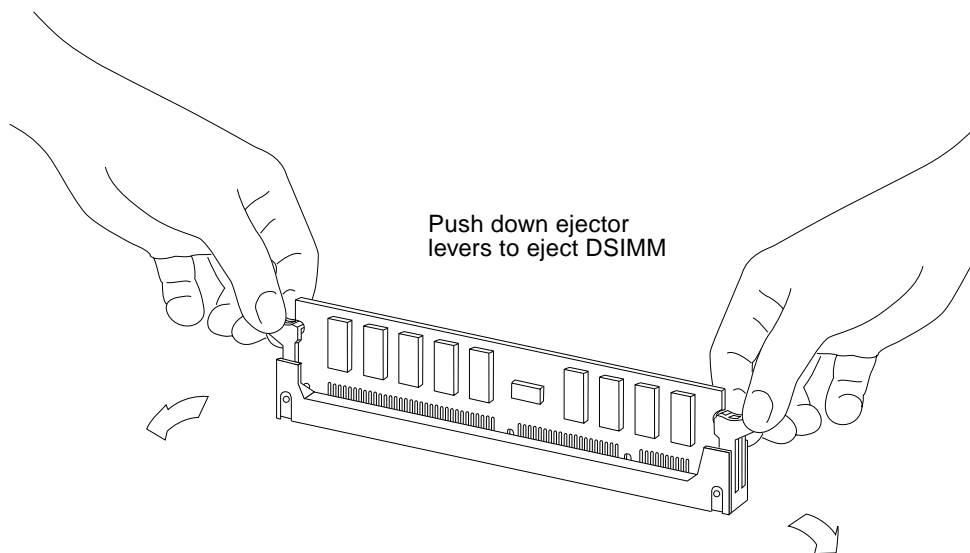

FIGURE 11-15 Ejecting a DSIMM
5. To eject the faulty DSIMM, press down on the ejector levers on both sides of the DSIMM connector (see FIGURE 11-15).